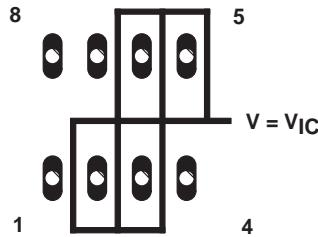
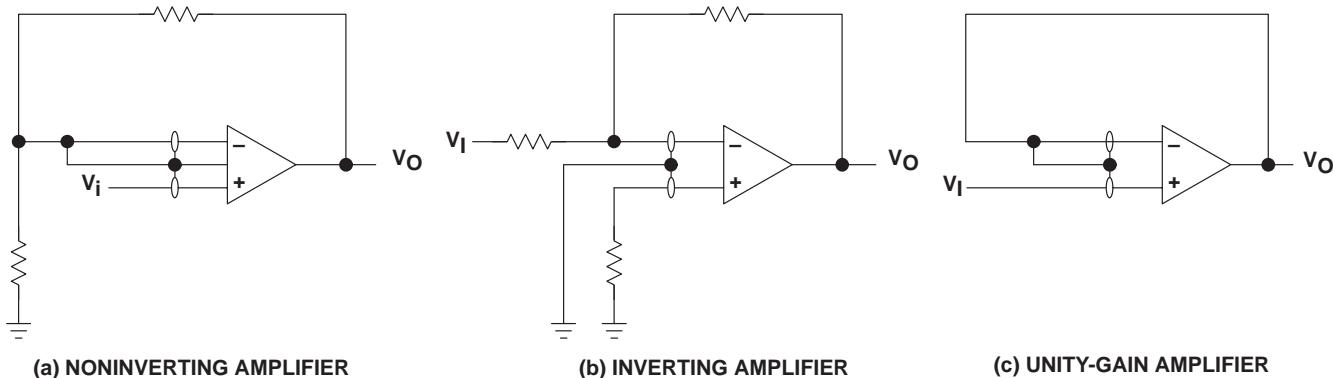

Figure 38. Isolation Metal Around Device Inputs
Figure 42. Guard-Ring Schemes
- Isolate the device from other potential leakage sources. Use a grounded shield around and between the device inputs (see Figure 38). Leakages that would otherwise flow to the inputs are shunted away.
Because of the extremely high input impedance and resulting low bias-current requirements, the TLV232x is well suited for low-level signal processing; however, leakage currents on printed-circuit boards and sockets can easily exceed bias-current requirements and cause a degradation in device performance. It is good practice to include guard rings around inputs (similar to those of Figure 38 in the Parameter Measurement Information section). These guards should be driven from a low-impedance source at the same voltage level as the common-mode input (see Figure 42).